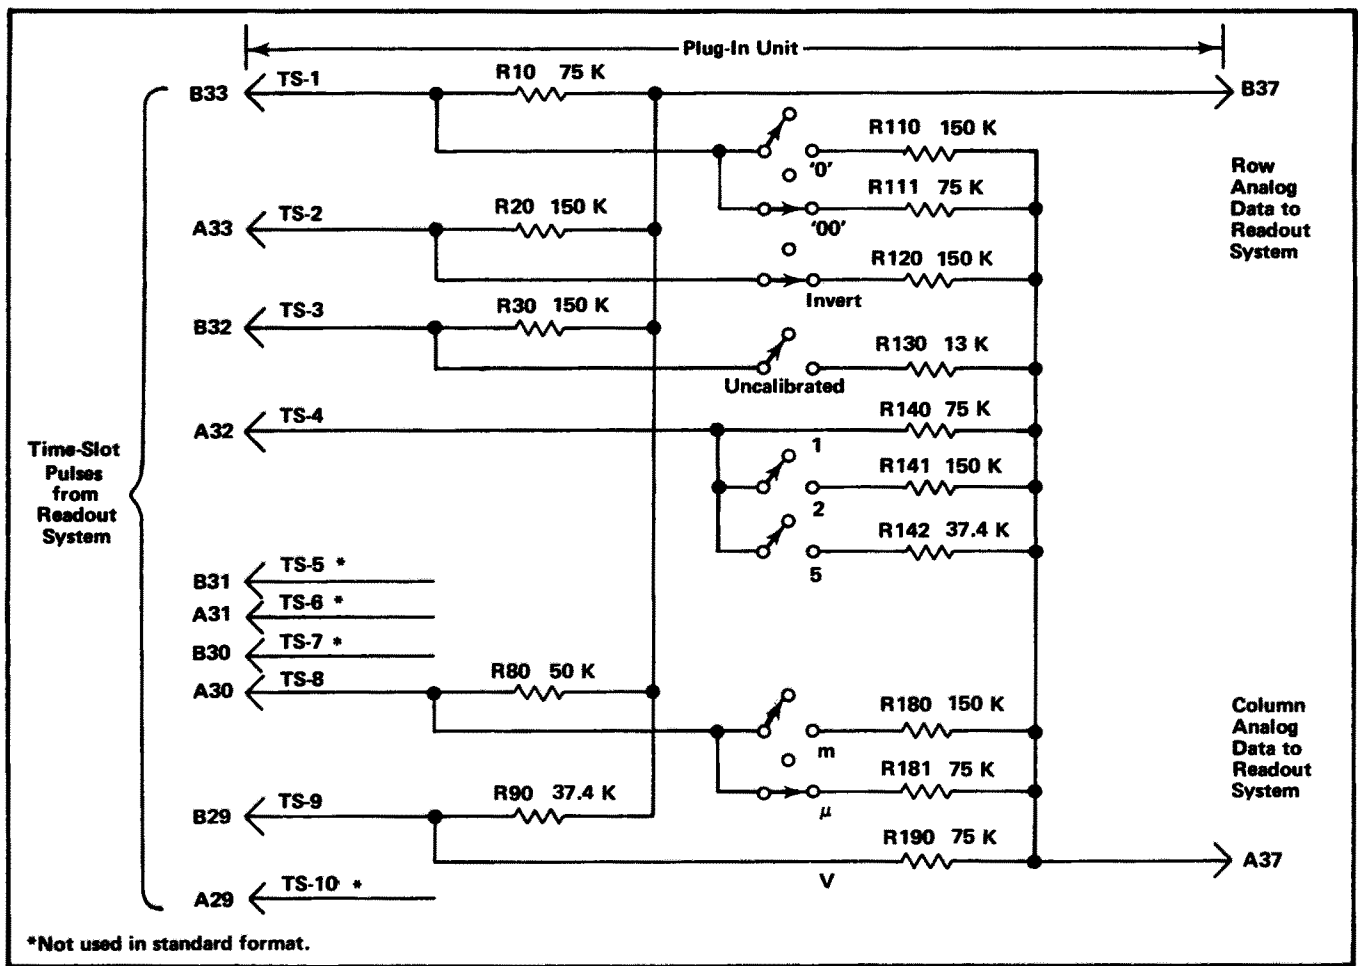

Fig. 3-32. Typical encoding scheme for voltage-sensing amplifier plug-in unit. Coding shown for deflection factor of 100 microvolts.
Data is conveyed from the plug-in units to the Readout System in the form of an analog code having up to 11 current levels (from zero to one milliampere in 100 microampere steps). The characters which can be selected by the encoded data are shown on the Character Selection Matrix (see Fig. 3-25). Each character requires two currents to define it; these currents are identified as the column current and the row current which correspond to the column and row of the matrix. The column and row data is encoded by resistive programming in the plug-in units. Fig. 3-32 shows a typical encoding scheme for a voltage-sensing amplifier plug-in unit. Notice that the 10 time-slot (TS) pulses produced by the Time-Slot Counter stage are connected to the plug-in unit. However, time-slots 5, 6, 7, and 10 are not used by the plug-in unit to encode data when using the Standard Readout Format (see Table 3-2 for Standard Readout Format). The amplitude of the time-slot pulses is exactly  $-15$  volts as determined by the Timer stage. Therefore, the resultant output current from the plug-in units can be accurately controlled by the programming resistors in the plug-in units.
For example, in Fig. 3-32, resistors R10 through R90 control the row analog data which is connected back to the Readout System. These resistors are of fixed value and define the format in which the information will be presented by the Readout System. Fig. 3-33A shows an idealized output current waveform of row analog data which results from the 10 time-slot pulses. Each of the steps of current shown in these waveforms corresponds to 100 microamperes of current. The row numbers on the left-hand side of the waveform correspond to the rows in the Character Selection Matrix shown in Fig. 3-35. The row analog data is connected back to the Readout System via terminal B37 of the plug-in interface.
The Column analog data is defined by resistors R110 through R190. The program resistors are connected to the time-slot lines by switch closures to encode the desired data. The data as encoded by the circuit shown in Fig. 3-32 indicates a 100 microvolt sensitivity with the display inverted and calibrated vertical deflection factors. This results in the idealized output current waveforms shown in Fig. 3-33B at the column analog data output, terminal A37 of the plug-in interface. Resistor R111, connected between time-slot 1 and the column analog data output, encodes two units of current during time-slot 1. Referring to the
connectors of vertical plug-in units. A special coding ring around the input connector of the plug-in unit senses the attenuation ratio of the probe (with readout-coded probes only). The probe contains a resistor which results in additional column current. For example, if a 10X attenuator probe is connected to a plug-in with the coding for 100 microvolts as shown in Fig. 3-32, an additional unit of current is added to the column analog data during time-slot 1. Since two units of current were encoded by R111 (see Fig. 3-32), this additional current results in a total of three units of column analog current during this time-slot. Referring to the Character Selection Matrix, three units of column current along with the two units of row current encoded by R10 indicates that the prefix should be reduced. Since this instruction occurs in the same time-slot which previously indicated that two zeros should be added to the display and only one instruction can be encoded during a time-slot, the zeros do not appear in the display. The CRT readout will now be changed to 1 mV (readout) program produced by plug-in same as for previous example.